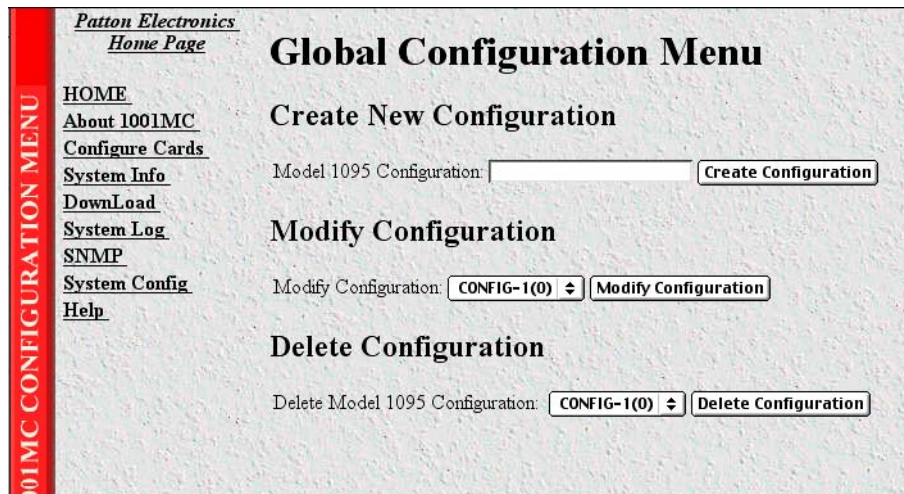

Figure 134. Global Configuration Menu page
1. Select a template from the Delete Configuration pop-up menu (see figure 134).